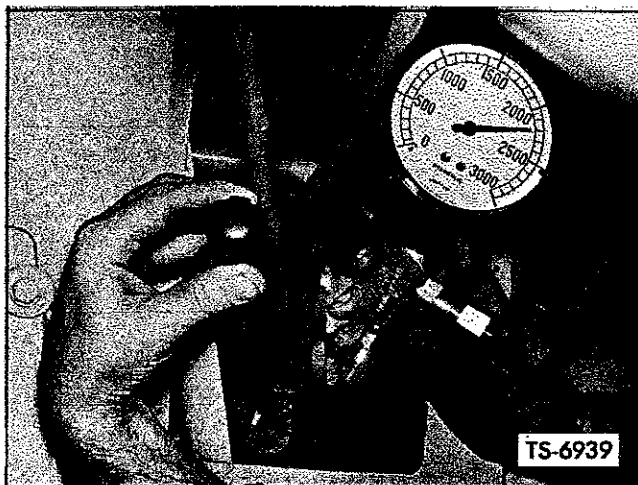

Fig. 35. Adjust Pressure — Boom and Bucket Control Valve
4. Remove acorn nut on end of adjusting screw, and loosen locknut. Insert screwdriver and turn screw clockwise to increase pressure, counterclockwise to decrease pressure. See Figure 35. Turn screw in increments of approximately one revolution or less, set locknut, and retake reading. Repeat until gauge reads 2200 psi.